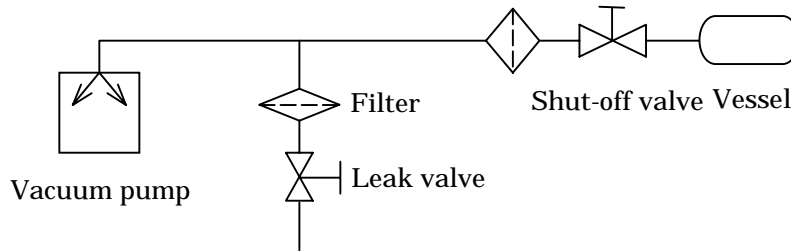

Fig.3.1 Example of Piping Used When Evacuating a Vessel
- 4) When evacuating a vessel, ensure that a shut-off valve is placed between the pump inlet pipe and the vessel (see Fig.3.1).